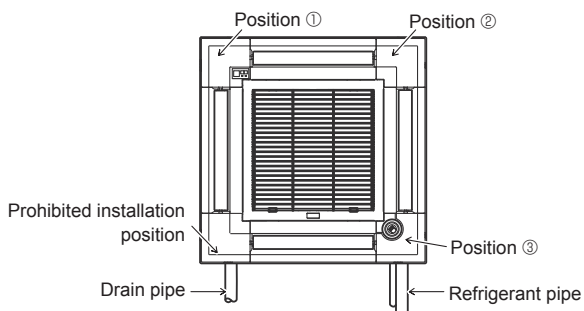

Fig. 9-11
The signal receiver corner panel can not be installed on the drain pipe side for the main unit. (Refer to Fig. 9-11)
- The i-see Sensor corner panel should be fixed onto the grille (D) with screw (F).
- * If the position of the i-see Sensor was changed from default position (position ①) to the other position, change the function settings. (Refer to page 12 and Fig. 9-11)
- The i-see Sensor corner panel can not be installed on the drain pipe side for the main unit. (Refer to Fig. 9-11)